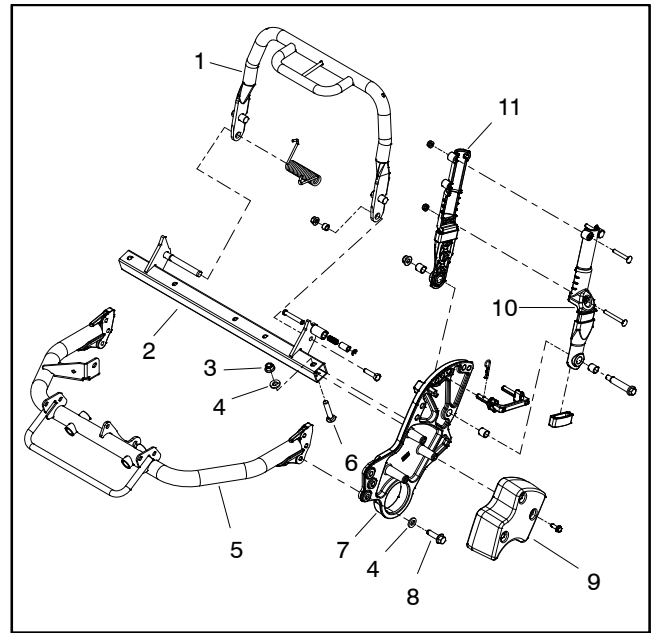
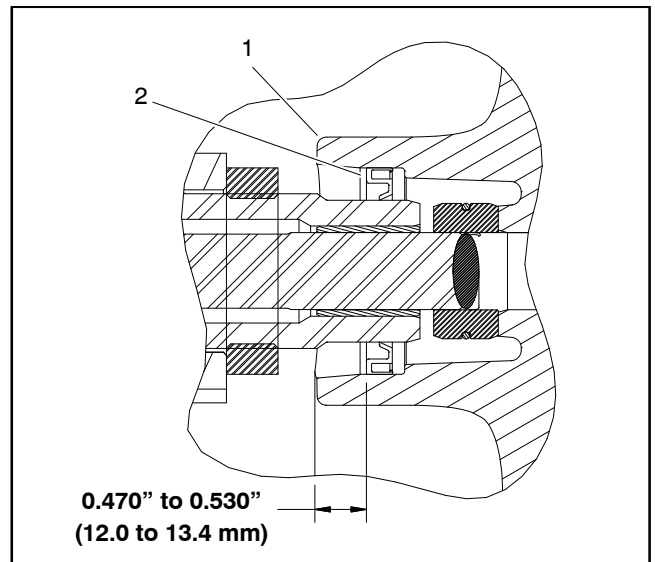

Figure 25
Figure 26
5. Separate LH side plate (item 25) from machine (Fig. 25):
A. Remove flange nut, hardened washer and carriage screw (items 3, 4 and 6 in Fig. 25) that secure LH side plate to rear frame.
B. Remove three (3) flange screws and hardened washers (items 8 and 4 in Fig. 25) that secure LH side plate to frame.
7. While retaining LH drum, loosen and remove bearing nut (item 15) from traction drum assembly. The ball bearing (item 14) is pressed onto the bearing nut so it will be removed with the nut.
8. Slide LH traction drum (item 13) from drum shaft. Locate and retrieve square key from shaft.
9. If necessary, carefully remove grease seal (item 12) from LH traction drum taking care to not damage bore of drum. Discard removed seal.
10. If necessary, remove LH hex shaft (item 16) and ball bearing (item 14) from bearing nut.
12. Remove O-ring (item 30), pin (item 28) and lock collar (item 27) from drum shaft.
13. While retaining remaining drum, loosen and remove jam nut (item 11) from long spur gear.
14. Remove RH traction drum (item 10) from machine. Locate and retrieve square key from spur gear.
4. Align slot in RH traction drum (item 10) with key on long spur gear and slide traction drum onto gear.
6. Install jam nut (item 11) onto threads of long spur gear to secure RH traction drum. Torque jam nut from **140 to 160 ft-lb (190 to 216 N-m)**.
7. Slide lock collar (item 27) onto drum shaft. Align holes in collar and shaft and then install pin (item 28). Fit O-ring (item 30) to slot in collar.
8. If grease seal (item 12) was removed from LH traction drum, install new grease seal into drum. Make sure that seal lip is orientated toward center of drum. Press seal into drum bore so that seal is recessed from 0.470" to 0.530" (12.0 to 13.4 mm) from edge of drum (Fig. 26).
9. Place square key (item 6) into slot of drum shaft. Apply antiseize lubricant to top surface of key.
10. Align slot in LH traction drum (item 13) with key on drum shaft and carefully slide traction drum onto shaft taking care to not damage grease seal in drum.
12. Make sure that ball bearing (item 14) is pressed onto the bearing nut (item 15). While retaining LH drum, secure drum to traction drum assembly with bearing nut (item 15). Torque bearing nut from **75 to 90 ft-lb (102 to 122 N-m)**.
13. Secure LH side plate (item 25) to machine (Fig. 25):
B. Secure LH side plate to frame with three (3) flange screws and hardened washers.